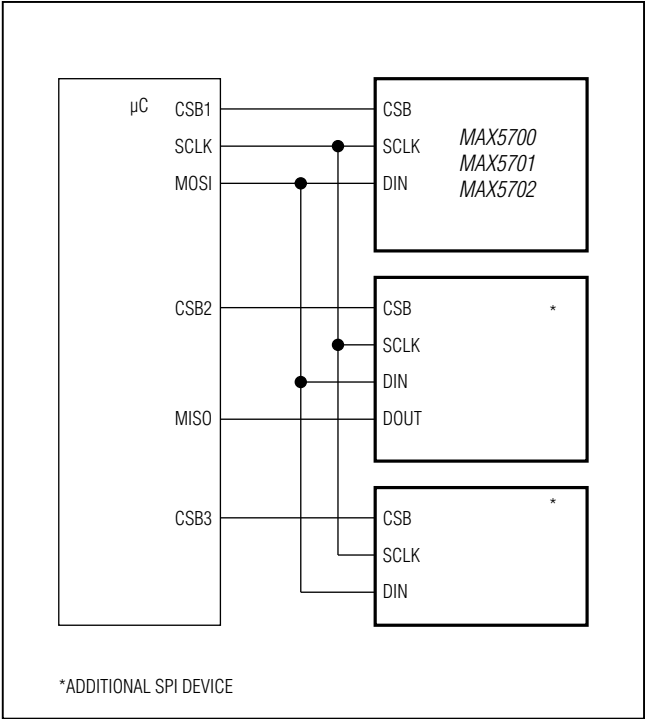

Figure 2. Typical SPI Application Circuit
Figure 1 shows the timing diagram for the complete 3-wire serial interface transmission. The DAC code settings (D) for the MAX5700/MAX5701/MAX5702 are accepted in an offset binary format (see Table 1). Otherwise, the expected data format for each command is listed in Table 2. See Figure 2 for an example of a typical SPI circuit application.